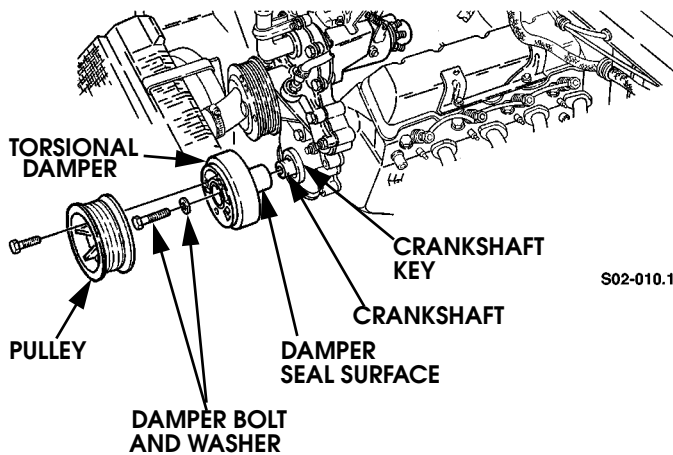

Figure 2-19: Torsional Damper and Crankshaft Pulley Mounting
2. Remove damper bolt and washer (Figure 2-19).
13. Remove torsional damper attaching bolt and washer (Figure 2-19).